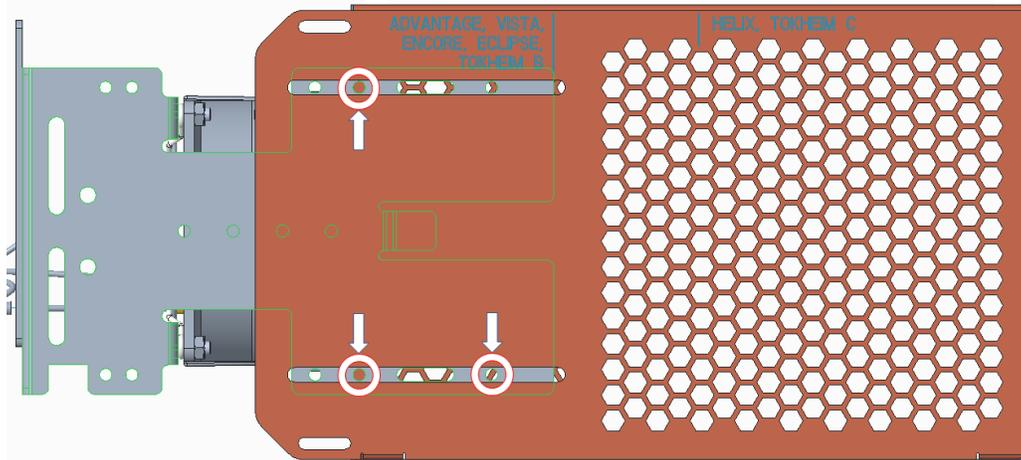

Figure 97
6. Insert and tighten three of the thread forming 006-8626667 screws at the locations shown in Figure 97 to secure the wire guard (497-0522796) to the NCR heater assembly.